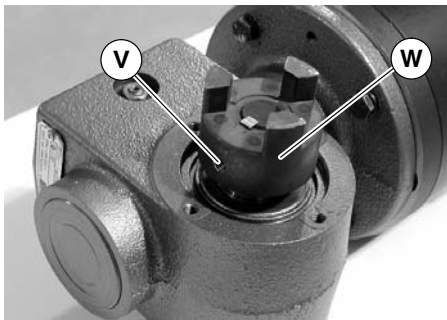

Figure 12
- Loosen set screw (V of Figure 12) and remove 3 jaw coupling (W).
- Install 3 jaw coupling (W of Figure 12) and tighten set screw (V) to 45 in-lbs (5 N-m).